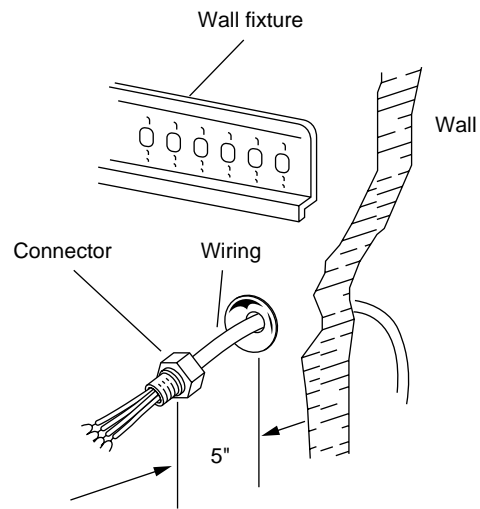

Fig. 3-44
- (a) Insert the inter-unit wiring (according to local codes) into the through-the-wall PVC pipe. Run the wiring toward the indoor side allowing approx. 5". to extend from the wall face. (Fig. 3-44)